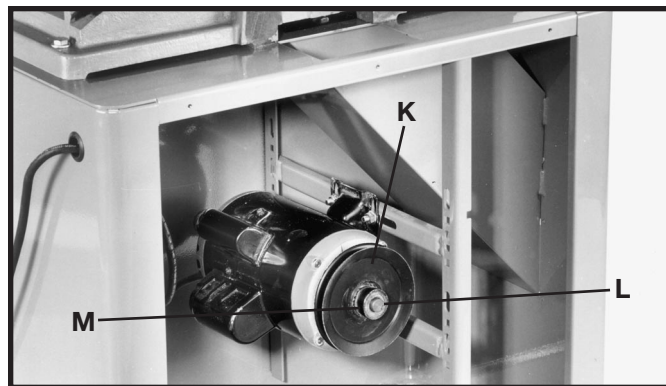

Fig. 10
Assemble motor pulley (K) Fig. 10, to motor shaft with the hub of the pulley in the outer position as shown. Make certain key (L) is inserted in the keyway of the pulley and motor shaft, then tighten set screw (M) using the 3 mm hex wrench (not shown).